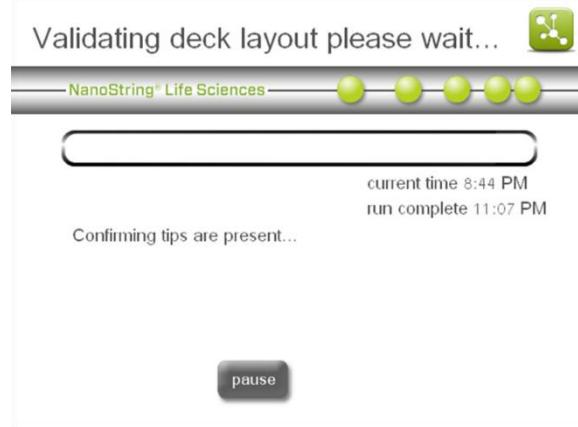

Figure 34: The ‘Validating deck layout’ screen.
16. The ‘Validating deck layout’ screen will appear (**Figure 34**).